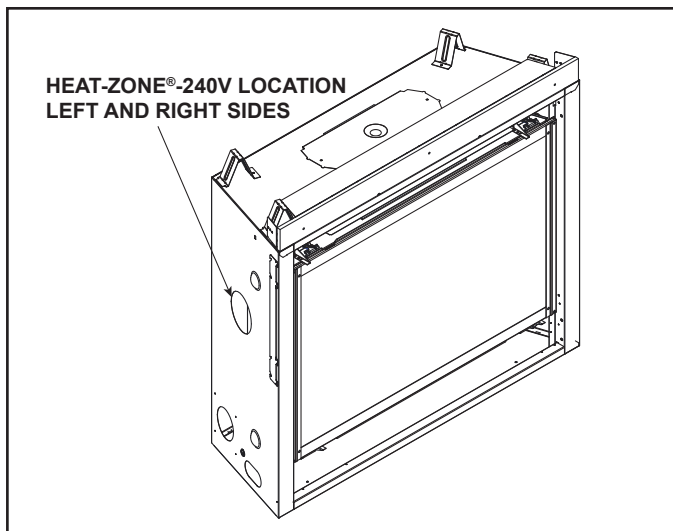

Figure 6.13 Heat-Zone® Locations
- Locate the Heat-Zone®-240V ports on the left and right sides of the appliance. Either one or two Heat-Zones®-240V may be installed. See Figure 6.13. Remove the knockout(s) from the appliance with a tin snips.